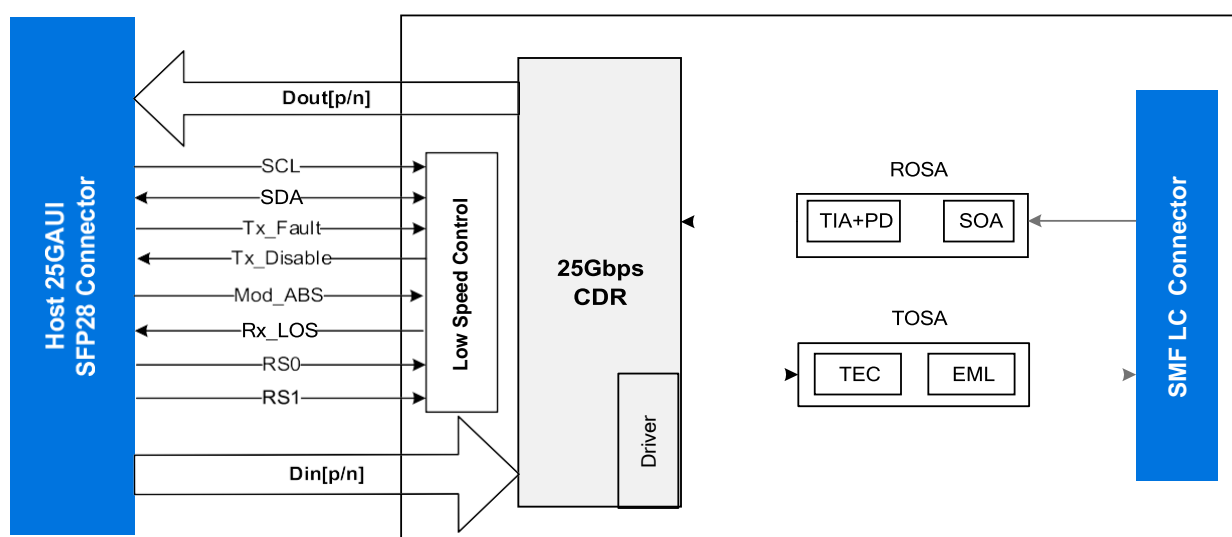

Figure 1: Transceiver Block Diagram
As shown in Figure 1, the transmitter path of the transceiver contains a 25GAUI electrical input with equalization (EQ) block, integrated EML driver, EML laser and diagnostic monitor.
As shown in Figure 1, the receiver path of the transceiver contains an SOA, PIN photodiode, trans-impedance amplifier (TIA), 25GAUI compliant electrical output block.